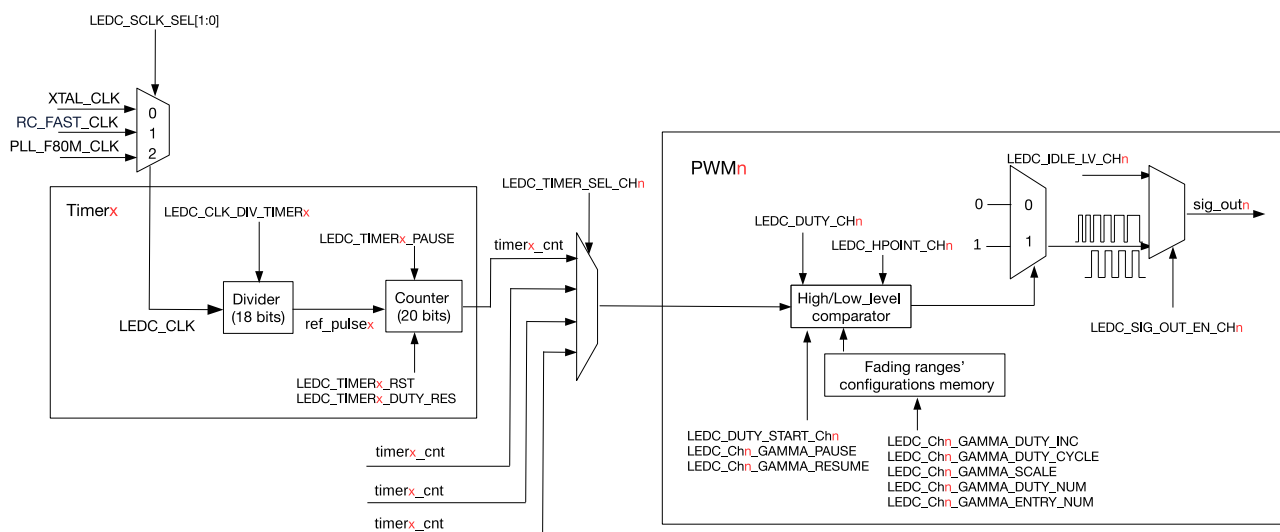
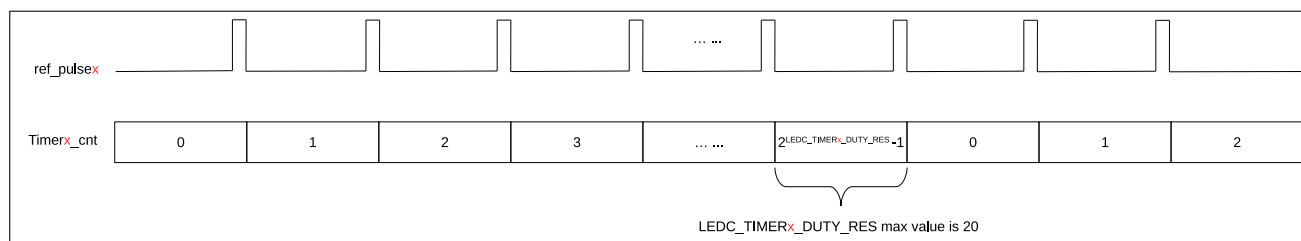

Figure 35.3-2. Timer and PWM Generator Block Diagram
Figure 35.4-2. Relationship Between Counter And Resolution
Figure 35.3-2 illustrates the main functional blocks of the timer and the PWM generator.
Each timer in LED PWM Controller internally maintains a timebase counter. Referring to Figure 35.3-2, this clock signal used by the timebase counter is named `ref_pulsex`. All timers use the same clock source `LEDC_CLK`, which is then passed through a clock divider to generate `ref_pulsex` for the counter.
The LEDC_CLK signal is passed through a clock divider to generate the `ref_pulsex` signal for the counter. The frequency of `ref_pulsex` is equal to the frequency of LEDC_CLK divided by the divisor LEDC_CLK_DIV (see Figure 35.3-2).
Each timer contains a 20-bit timebase counter that uses ref_pulse_x as its reference clock (see Figure 35.3-2). The `LEDC_TIMERx_DUTY_RES` field configures the actual used bit width of this 20-bit counter. Hence, the maximum resolution of the PWM signal is 20 bits. The counter counts up to $2^{\text{LEDC_TIMER}_x\text{_DUTY_RES}} - 1$, overflows and begins counting from 0 again. The counter's value can be read, reset, and suspended by software. Figure 35.4-2 shows the relationship between the counter and PWM resolution.
Referring to Figure 35.3-2, the frequency of a PWM generator output signal (`sig_outn`) is dependent on the frequency of the timer's clock source `LEDC_CLK`, the clock divisor `LEDC_CLK_DIV`, and the duty resolution (counter width) `LEDC_TIMERx_DUTY_RES`:
As shown in Figure 35.3-2, each PWM generator has a comparator and two multiplexers. A PWM generator compares the timer's 20-bit counter value (`Timerx_cnt`) to two trigger values `Hpointn` and `Lpointn`. When the timer's counter value is equal to `Hpointn` or `Lpointn`, the PWM signal is high or low, respectively, as described below:
- `LEDC_TASK_SIG_OUT_DIS_CH $n$` : If the `LEDC_TASK_SIG_OUT_DIS_CH $n$ _EN` field is enabled, upon receiving the `LEDC_TASK_SIG_OUT_DIS_CH $n$` task, PWM n 's signal output is disabled, and the output signal (`sig_out $n$`) outputs a constant level as specified by field `LEDC_IDLE_LV_CH $n$` , as shown in Figure 35.3-2.